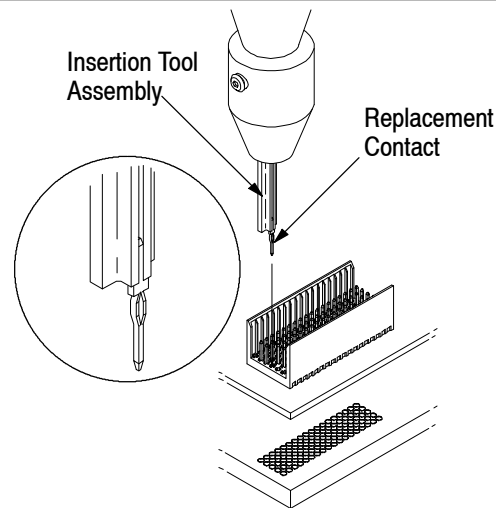

Figure 4
3. The push shoulders on the sides of the signal pin contact should each be against the ribs on the tool tip. The axis of the pin should be the same as the axis of the tool tip, with the flat section of the pin parallel to the BACK of the tip. See Figure 4.